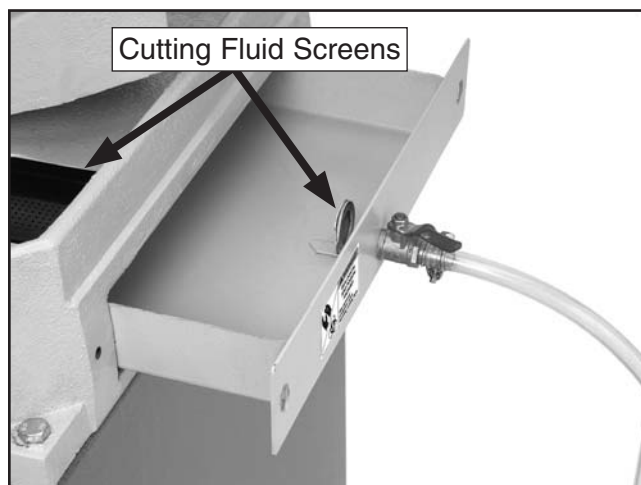

Figure 34. Cutting fluid screens.
4. Clean the cutting fluid screens in the machine base and the tank (**Figure 34**).